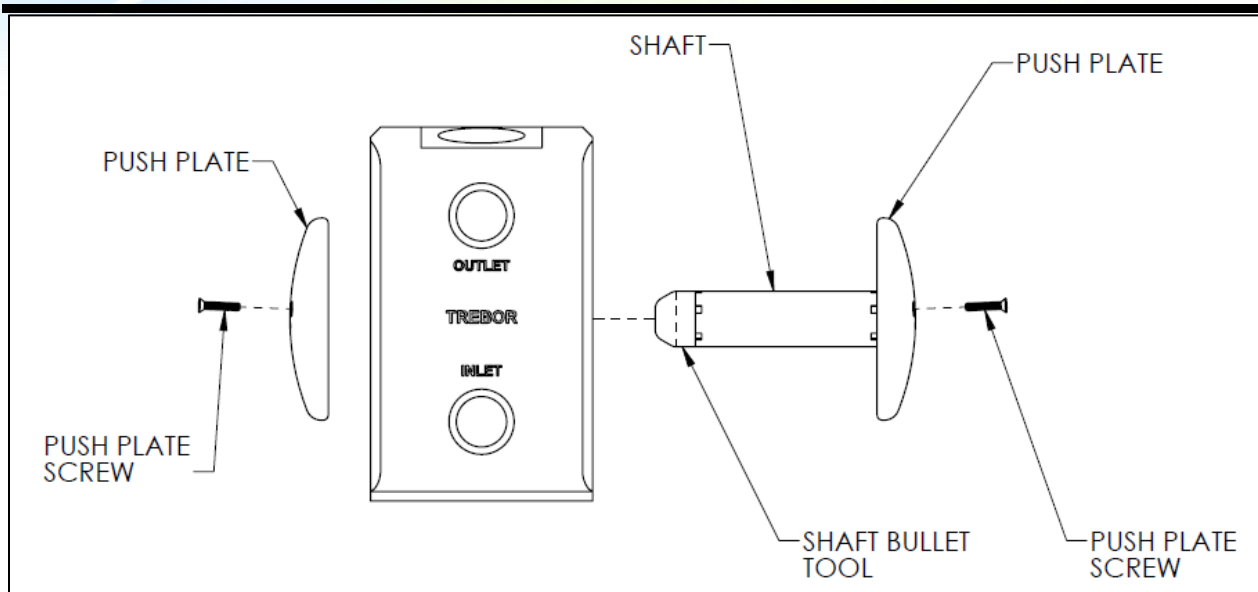

Figure 4-5
- Thread one push plate onto shaft until push plate bottoms out on shaft shoulder. (See Figure 4-5.)
- Insert shaft through shaft bore as shown in Figure 4-5. (Use shaft bullet tool to prevent damage to shaft or shaft bushing.)